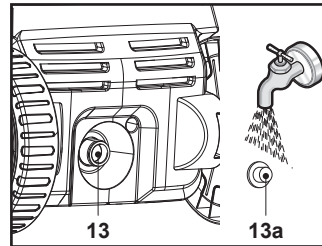

Fig. 20
2. Remove the filter screen (13a) from water inlet connector (13) and rinse under tap water to remove any foreign objects (Fig. 20). Reinstall the filter screen (13a) afterwards.